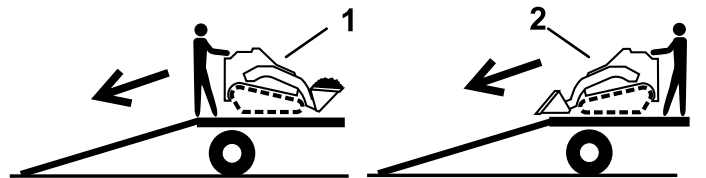

Figure 21
2. Unload the machine from the trailer with the heavy end up the ramp, carrying loads low (Figure 21).